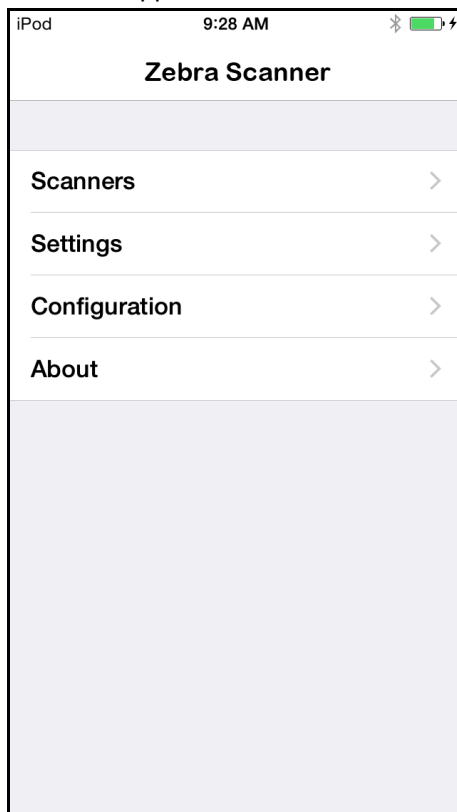

Figure 7-1 Home Screen
5. Touch the *Zebra Scanner for iOS* icon () on the device to launch the *Home* screen (Figure 7-1).
To display the *Scanners* screen touch *Scanners* from the *Home* screen (Figure 7-1). The *Scanners* screen displays all scanners paired and connected to the device. Select a device in the list to display the *Active Scanner* screen (see Active Scanner Screen on page 7-5). If no scanners were previously paired/connected, to the device, a connection is required (see Connecting the Device and the Scanner).
2. Touch *Scanners* from the *Home* screen (Figure 7-1). The following screen displays when the *Auto Detection* option is enabled.
To display the *Settings* screen touch *Settings* from the *Home* screen (*Figure 7-1*).
To display the *Scanner Configurations* screen touch *Configuration* from the *Home* screen (Figure 7-1).
To display the *About* screen touch *About* from the *Home* screen (Figure 7-1).